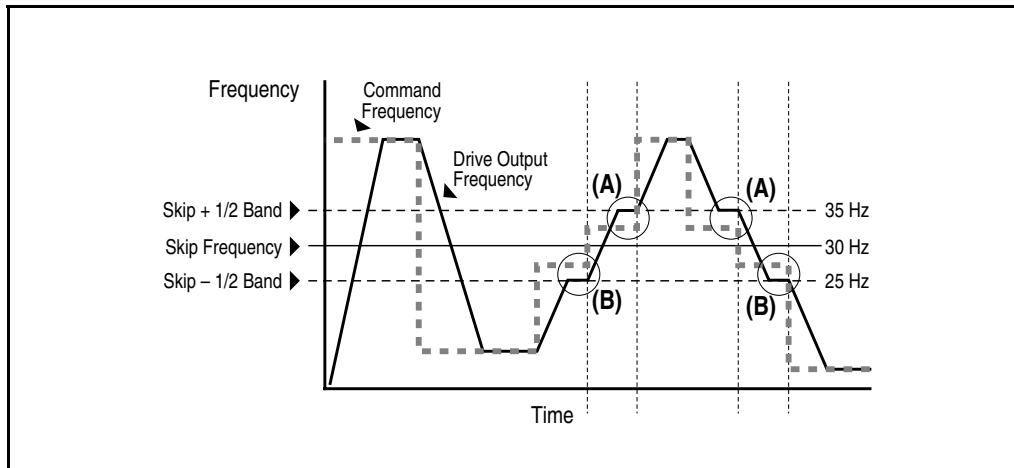

Figure 13.15 – Skip Frequency
If the commanded frequency of the drive is greater than or equal to the skip (center) frequency and less than or equal to the high value of the band (skip plus 1/2 band), the drive will set the output frequency to the high value of the band. See (A) in Figure 13-15.
If the commanded frequency is less than the skip (center) frequency and greater than or equal to the low value of the band (skip minus 1/2 band), the drive will set the output frequency to the low value of the band. See (B) in Figure 13-15.
Acceleration and deceleration are not affected by the skip frequencies. Normal accel/decel will proceed through the band once the commanded frequency is greater than the skip frequency. See (A) & (B) in Figure 13-15. This function affects only continuous operation within the band.